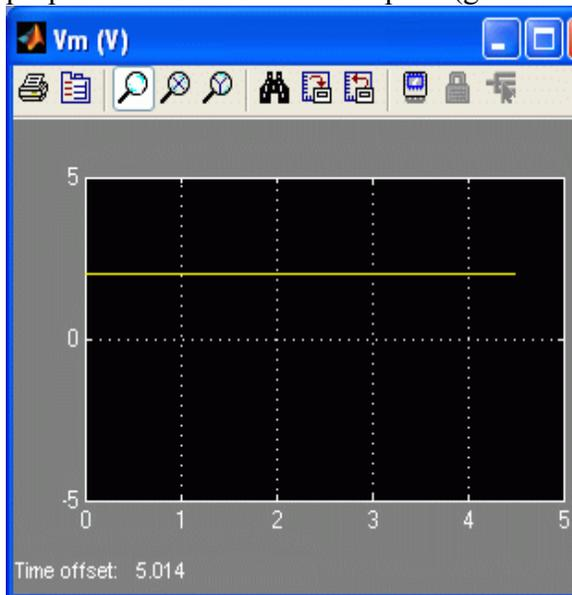

Figure 2: Constant input motor voltage.
4. Set the *Amplitude (V)* slider gain to 0.0 V.
5. Set the *Offset (V)* block to 2.0 V.
6. Open the load shaft speed scope, w_l (rad/s), and the motor input voltage scope, V_m (V).
8. Select QUARC | Start to begin running the controller. The SRV02 unit should begin rotating in one constant direction. The scopes should be reading something similar to as shown in figures 2 and 3. Note that in the w_l (rad/s) scope, the yellow trace is the measured speed while the purple trace is the simulated speed (generated by the *SRV02 Model* block).